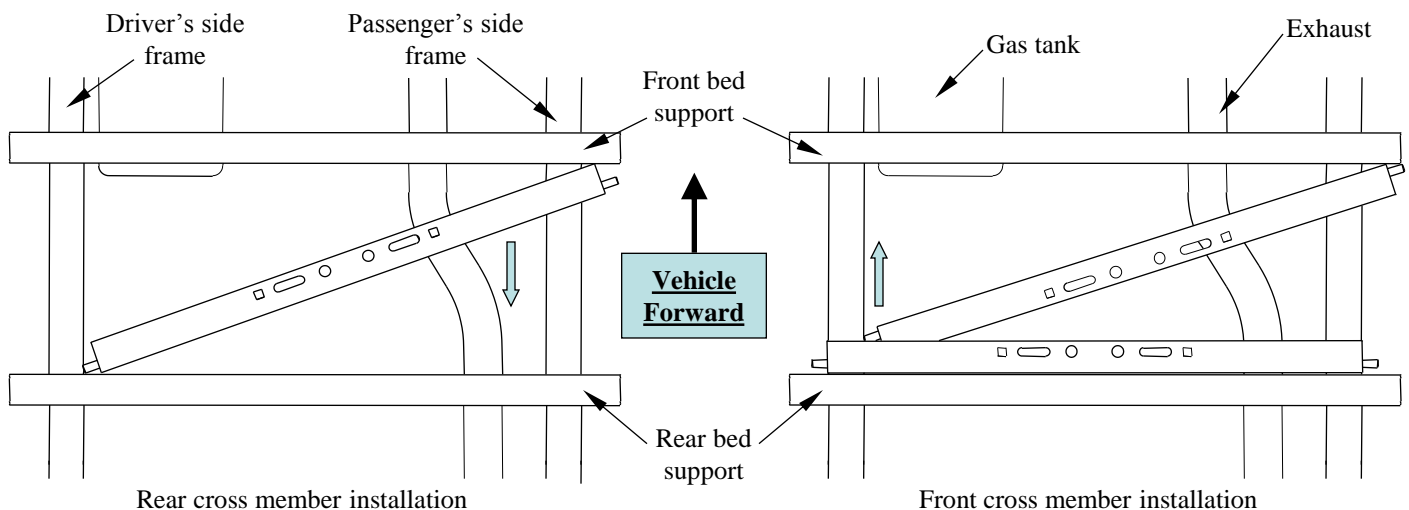

Figure 5
2. **Note:** To install the cross members it may be necessary to lower the exhaust. From underneath the vehicle, install the **rear** hitch cross member by placing the right end over the exhaust and the vehicle frame, and maneuvering the left end over the frame. Once both ends of the cross member are over the frame, slide it back against the rear bed support (see Figure 5). The forward and rearward cross members are the same.